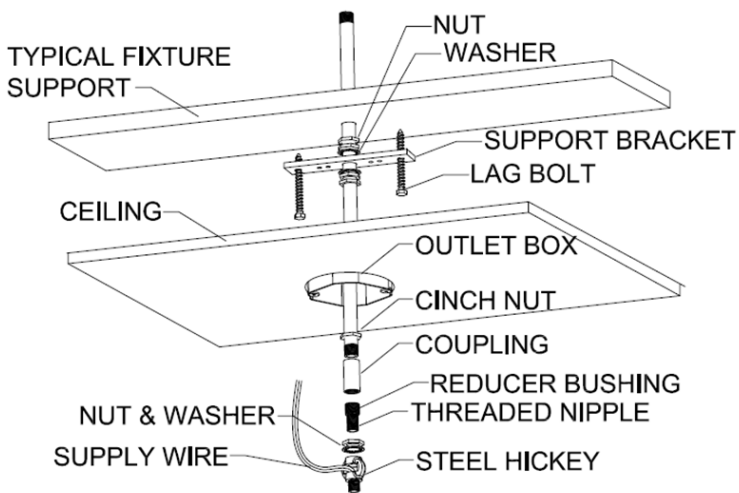

Figure 1
Step 3: Install the (2) Heavy Duty Mounting Kits into the ceiling. Space at 32" on center – position where Fixture will be installed. The bottom of the Steel Hickeys should be flush to the underside of the Ceiling surface. Power Supply Wires to fixture should be installed through one Hickey only. Figure 1